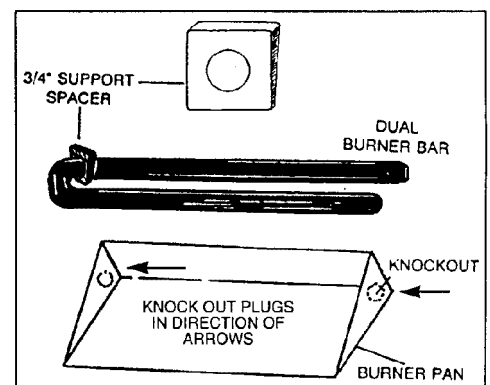

Figure 5. Burner bar placement
- Slide the 3/4" burner support spacer (Part # 10) over the Dual Burner bar (Part #9) and move spacer to opposite side of the gas inlet connection (See **Figure 5**).